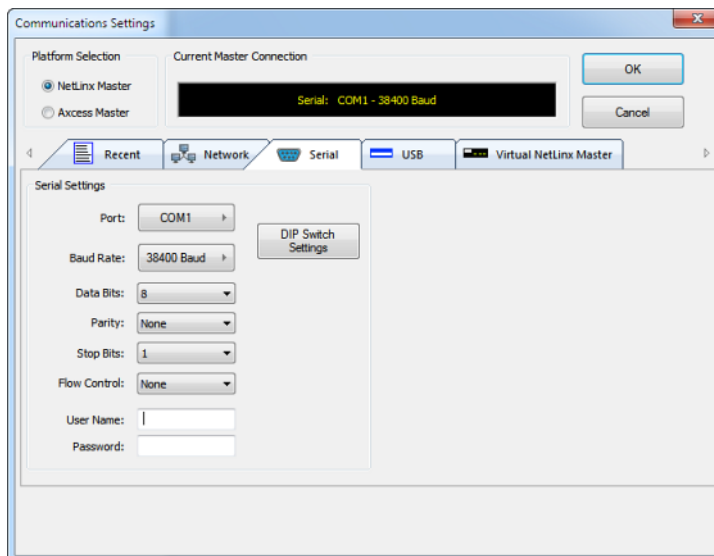

FIG. 5 Communications Settings dialog - Serial tab
5. Select the **Serial** tab to view the serial options (FIG. 5).